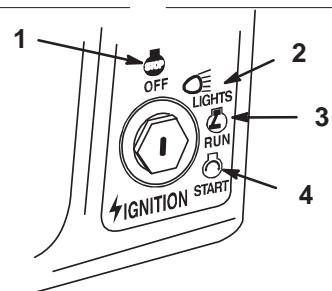

Figure 6
6. Turn the ignition key clockwise and hold it in the "START" position (Fig. 6). When the engine starts, release the key.
2. Turn the ignition key to “OFF” (Fig. 6).